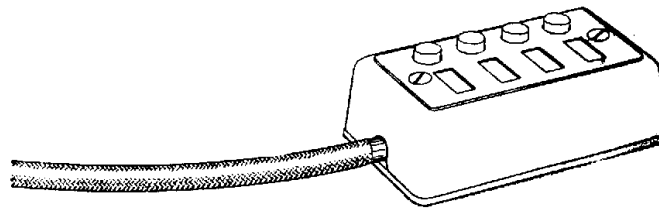

Fig. 3—Buzzer Key.
2.03 Each key station is regularly equipped with one buzzer key for signaling on the local line. If more buzzer keys are required, a separate 549 type buzzer key (Fig. 3), having four buttons with associated designation windows, may be provided. Of the five buttons thus provided, any may be used for either code or individual signaling.